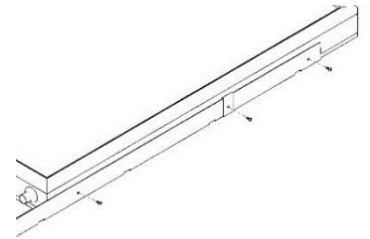
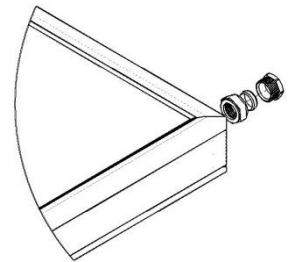

Figure 6-5 Collector Mounting
Figure 6-6 Compression Plug
19. Fix the collector rail to the collectors with two (2) of the supplied self-drilling screws per collector. Figure 6-5.
20. Fix the collector straps to the collector rail and collector/s with two (2) of the supplied self-drilling screws.
21. Slide a Compression Plug assembly (Figure 6-6) onto the top left and bottom right connections of the collector array. Tighten the assemblies.